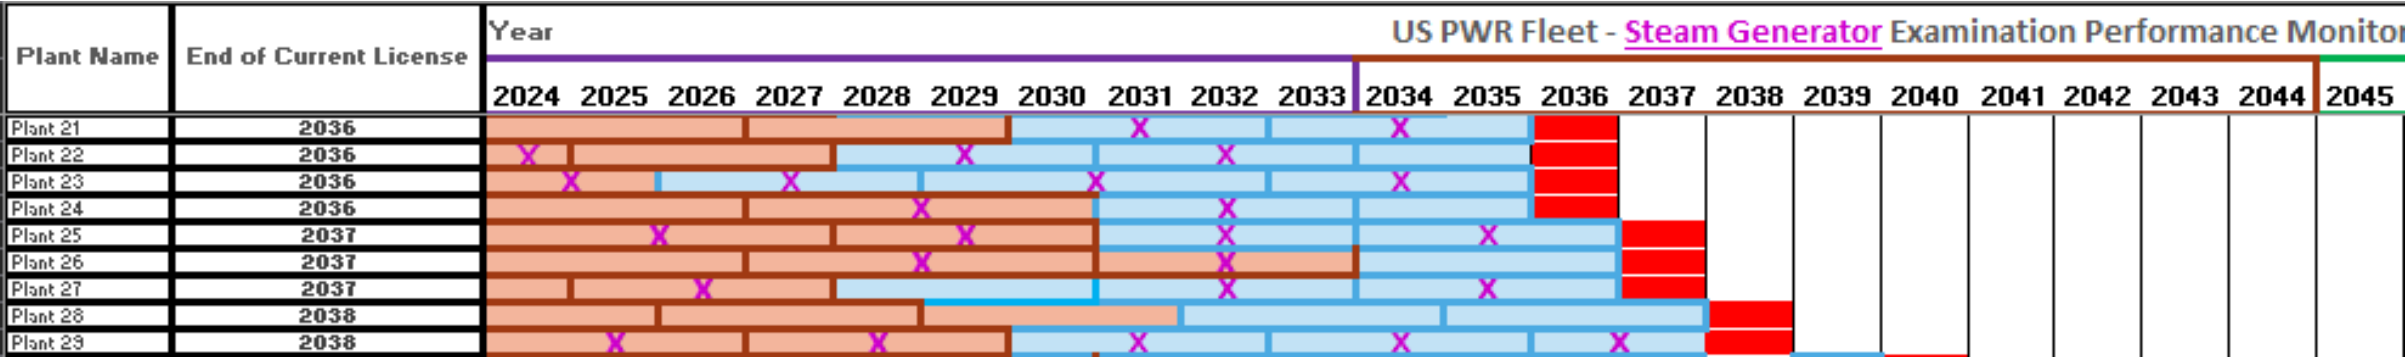

Figure 1 = 25 Examinations on original ASME 10-year interval
- Example - Comparison of applied reduction in examination data points and distribution (Figures 1 & 2)